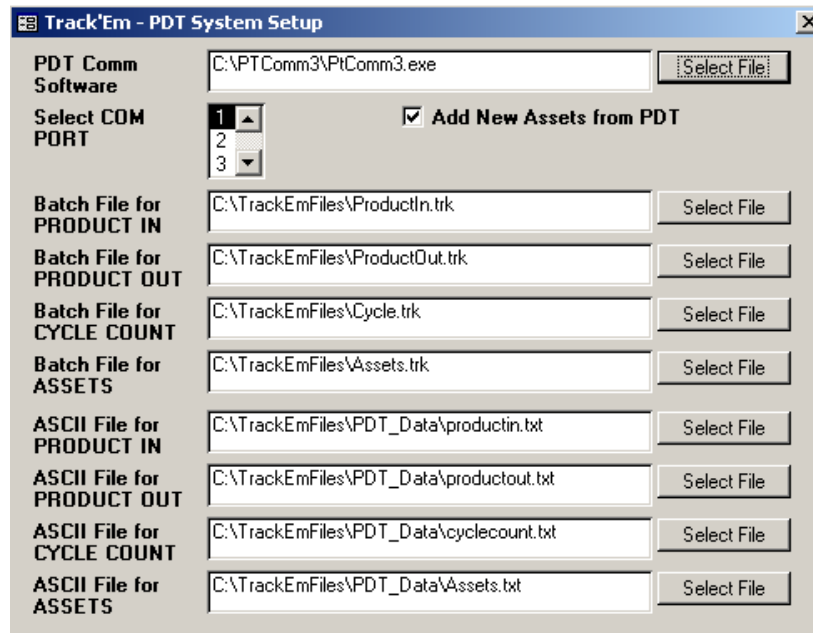

Figure 55
- The existing ASSET table record is updated with the new LOCATION and STATUS CODE. The lookup key is the ASSET BARCODE NUMBER. **Entry of the status code is optional and can be skipped by merely pressing the ENTER key.** New assets can be added (default) or optionally treated as invalid entries and not added. Note: Figure 55 on page 35 illustrates how to specify whether to add new assets or treat them as invalid entries.
The PDT communications screen (Figure 55) contains the default settings for communications and filenames used by Track'Em. These values should not be changed without support from RVB Systems Group. You may select a different COM PORT value if your 9-pin serial communications port (RS-232) is not set as COM1: If your PC has a modem or another RS-232 port, this value may need to be changed. The PDT communications software used by Track'Em will automatically connect using the correct port settings (such as baud rate, parity, etc.)